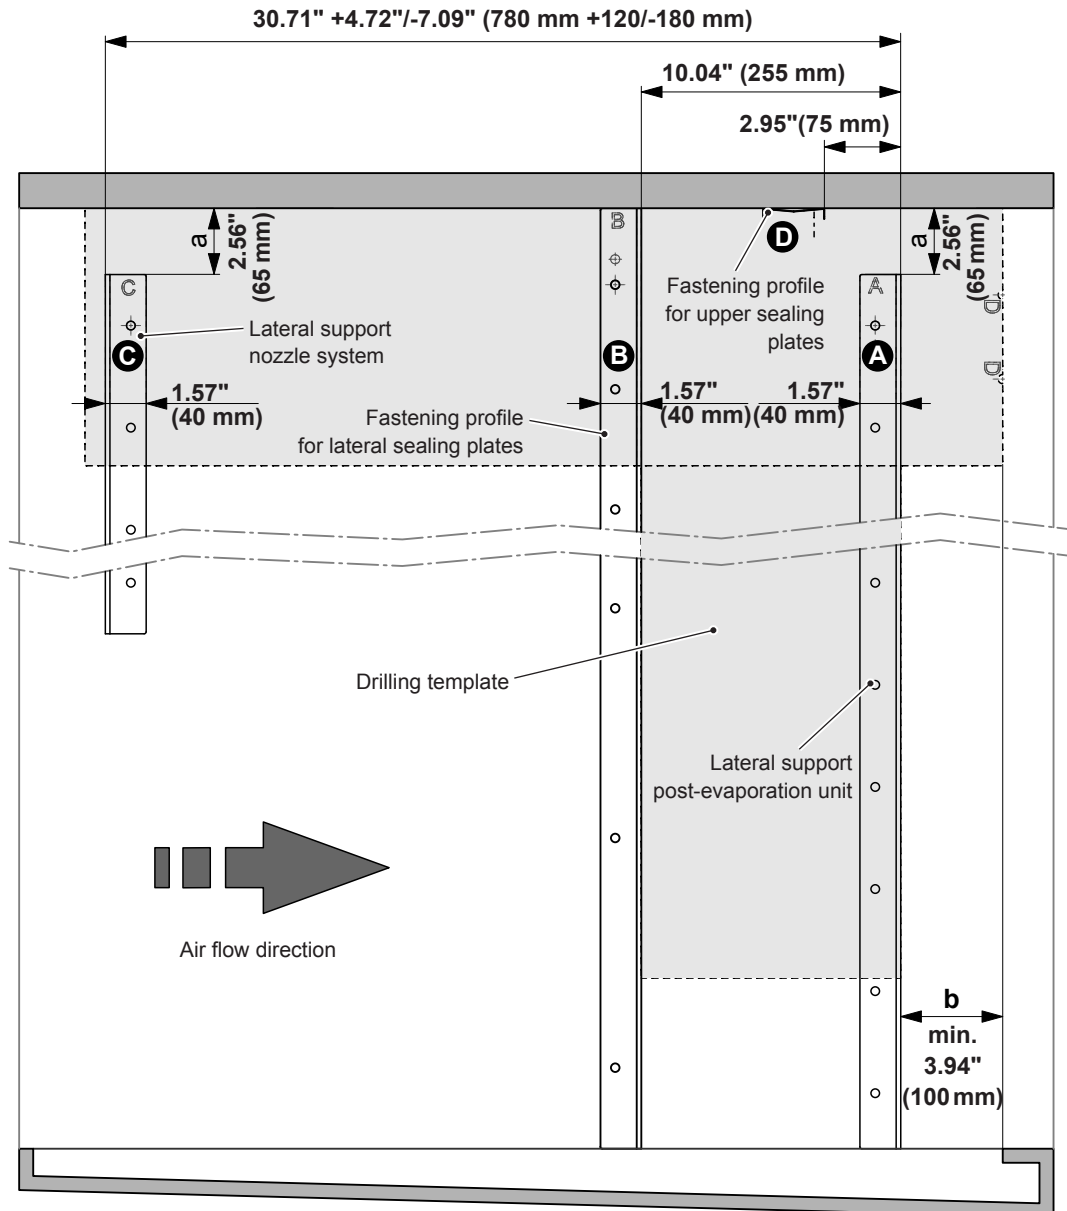
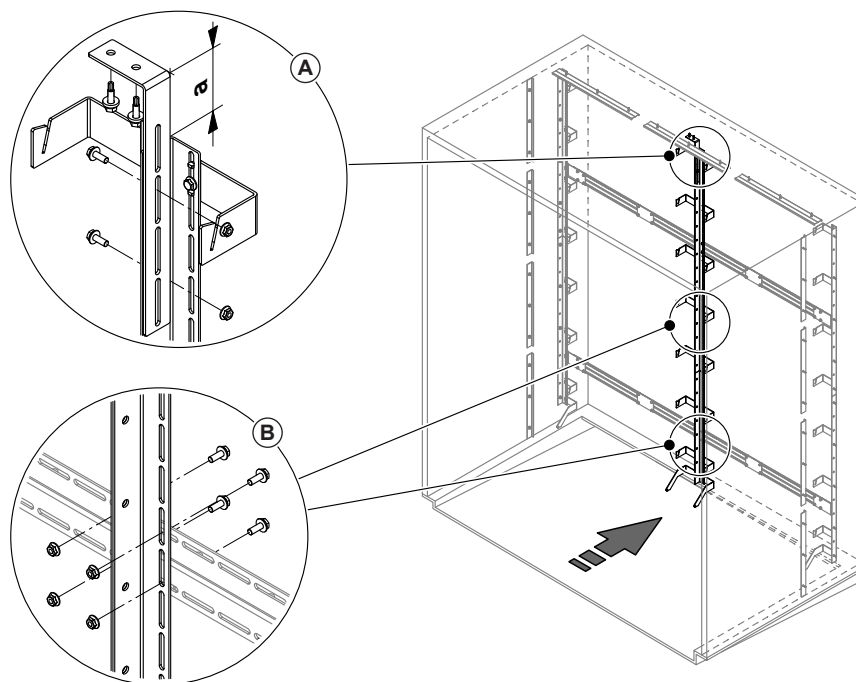

Fig. 5: Positioning of the fastening elements (side view)
Fig. 12: Mounting the vertical support(s)
- If necessary, loosen the two screw connections fixing the angle bracket(s) to the vertical support(s) and position the angle bracket(s) in such a manner that the distance between the leg of the angle bracket and the upper edge of the vertical support has the same distance as the upper edge of the two lateral supports have to the duct ceiling (see Fig. 5 and detail A in Fig. 12). Fasten the two screw connections again.
- Mark horizontal position(s) of the vertical support(s) on the cross members (one vertical support is always in the middle of the duct, several vertical supports must be evenly allocated over the duct width). From the front (view in air flow direction) attach the vertical support(s) with the angle bracket on top to the cross members, then shift upwards until it comes to a stop and fix the vertical support(s) four screws M6 x 16 mm and nuts to the cross members (see detail B in Fig. 12). Slightly fasten the screw connections only.
- Fix angle bracket of the vertical support(s) with two appropriate self-tapping screws to the duct ceiling (see detail A in Fig. 12).
8. Mounting the diagonal stiffeners (see also frame construction overviews in Fig. 5):